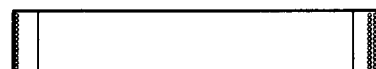

Fig. 1-7
- Flexible Cable (Part Number: YWV0EA0293AN 3 pieces) for between Sync Board and Preamp/Encoder Board as shown in Fig. 1-7.